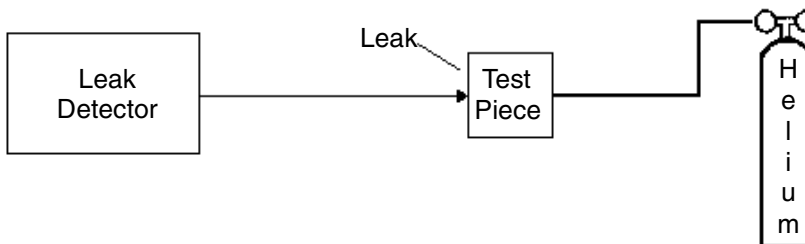

Figure C-2 Test Piece Pressurized: Detector Probe Used to Locate Leak
C.6.2 Test Piece Pressurized (Figure C-2)